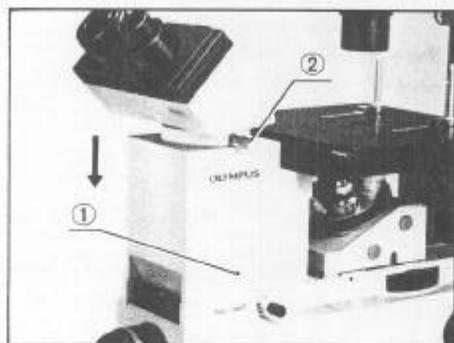

Fig. 14
⑩ Connecting the Intermediate Tube (IMT2-ATU)
Place the intermediate tube on the microscope base, and clamp screw ① with Allen wrench provided. (Fig. 14)
⑪ Mounting the Observation Tube
Loosen the clamping knob ② fully; insert the circular dovetail of the observation tube into the intermediate tube, and clamp. (Fig. 14)